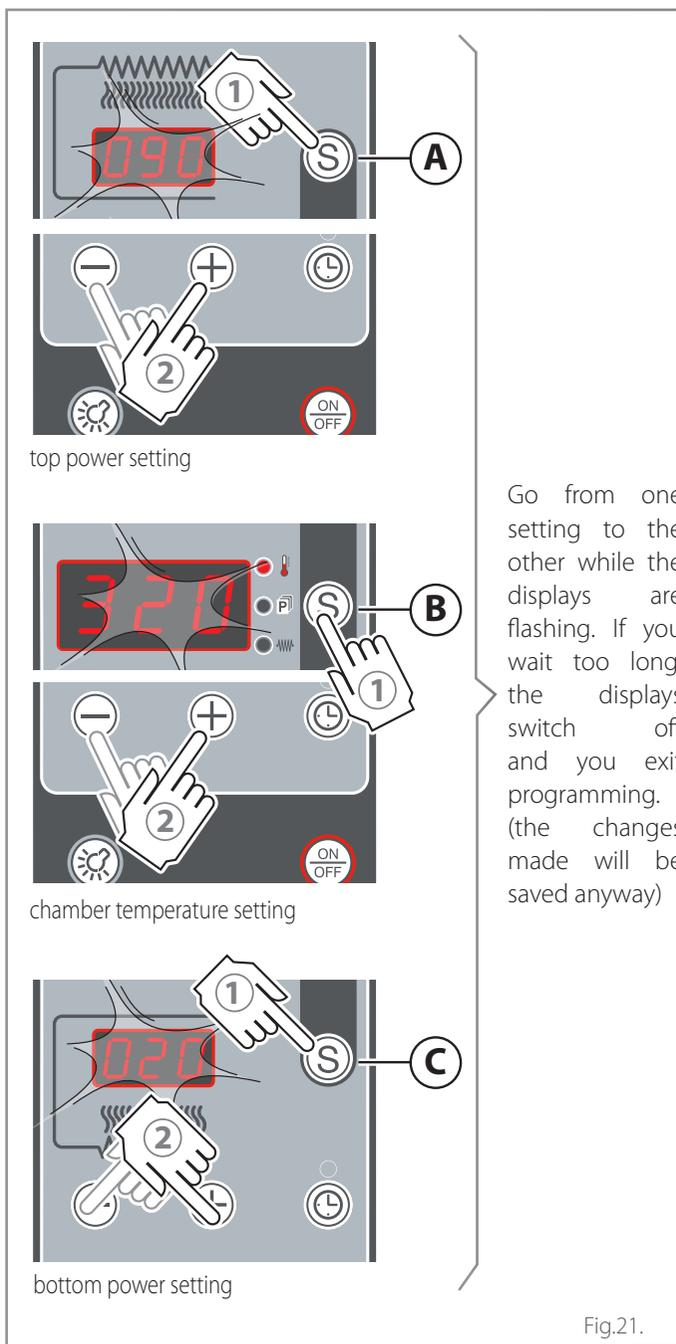

Fig.21.
① **With the oven switched off**, keep key **(S)** pressed for 4 seconds (all displays light up).
② Press the key again **(S)**; the display **(B)** shows the program being worked on and the program LED **(P)** lights up.
③ Using the keys "+" and "-", scroll the programs until you find the one you wish to change.
► Fig.21.